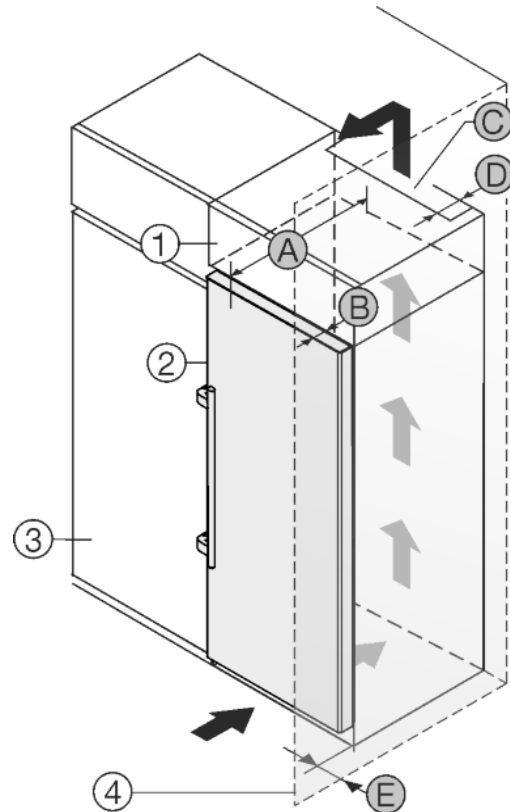

Fig. 8
The appliance can be built into kitchen units. A top cupboard *Fig. 8 (2)* can be added above the appliance in order to bring the appliance *Fig. 8 (1)* up to the height of the fitted kitchen units.
The appliance can be installed right next to the kitchen cabinet *Fig. 8 (3)*. The appliance must stick out by the depth *Fig. 8 (B)* from the front of the cabinet so that the doors can be opened fully. The appliance may protrude further depending on the depth of the kitchen cabinets and whether wall spacers are used.
- There must be a ventilation shaft with the depth *Fig. 8 (D)* at the back of the top cupboard over the entire width of the cupboard.
- The ventilation shaft *Fig. 8 (C)* must be observed under the ceiling.
If the appliance is installed with the hinges next to a wall *Fig. 8 (4)* the distance *Fig. 8 (E)* between the appliance and the wall must be observed. This is how far the handle protrudes when the door is open.